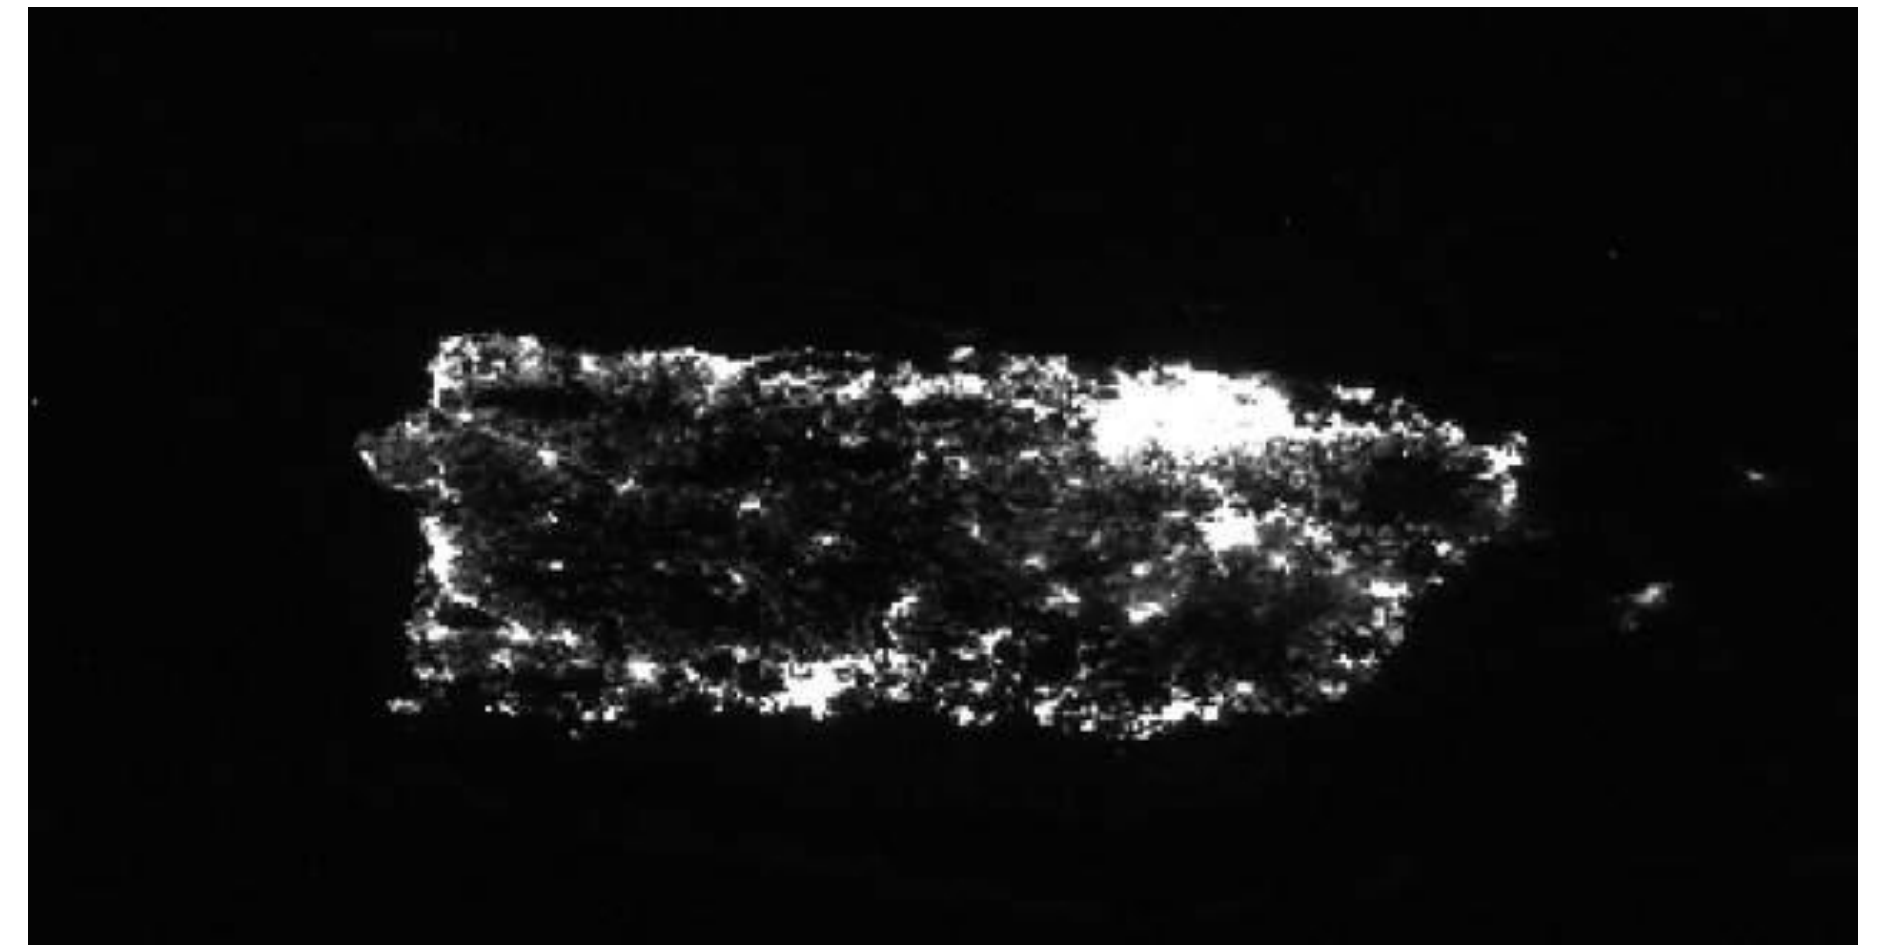
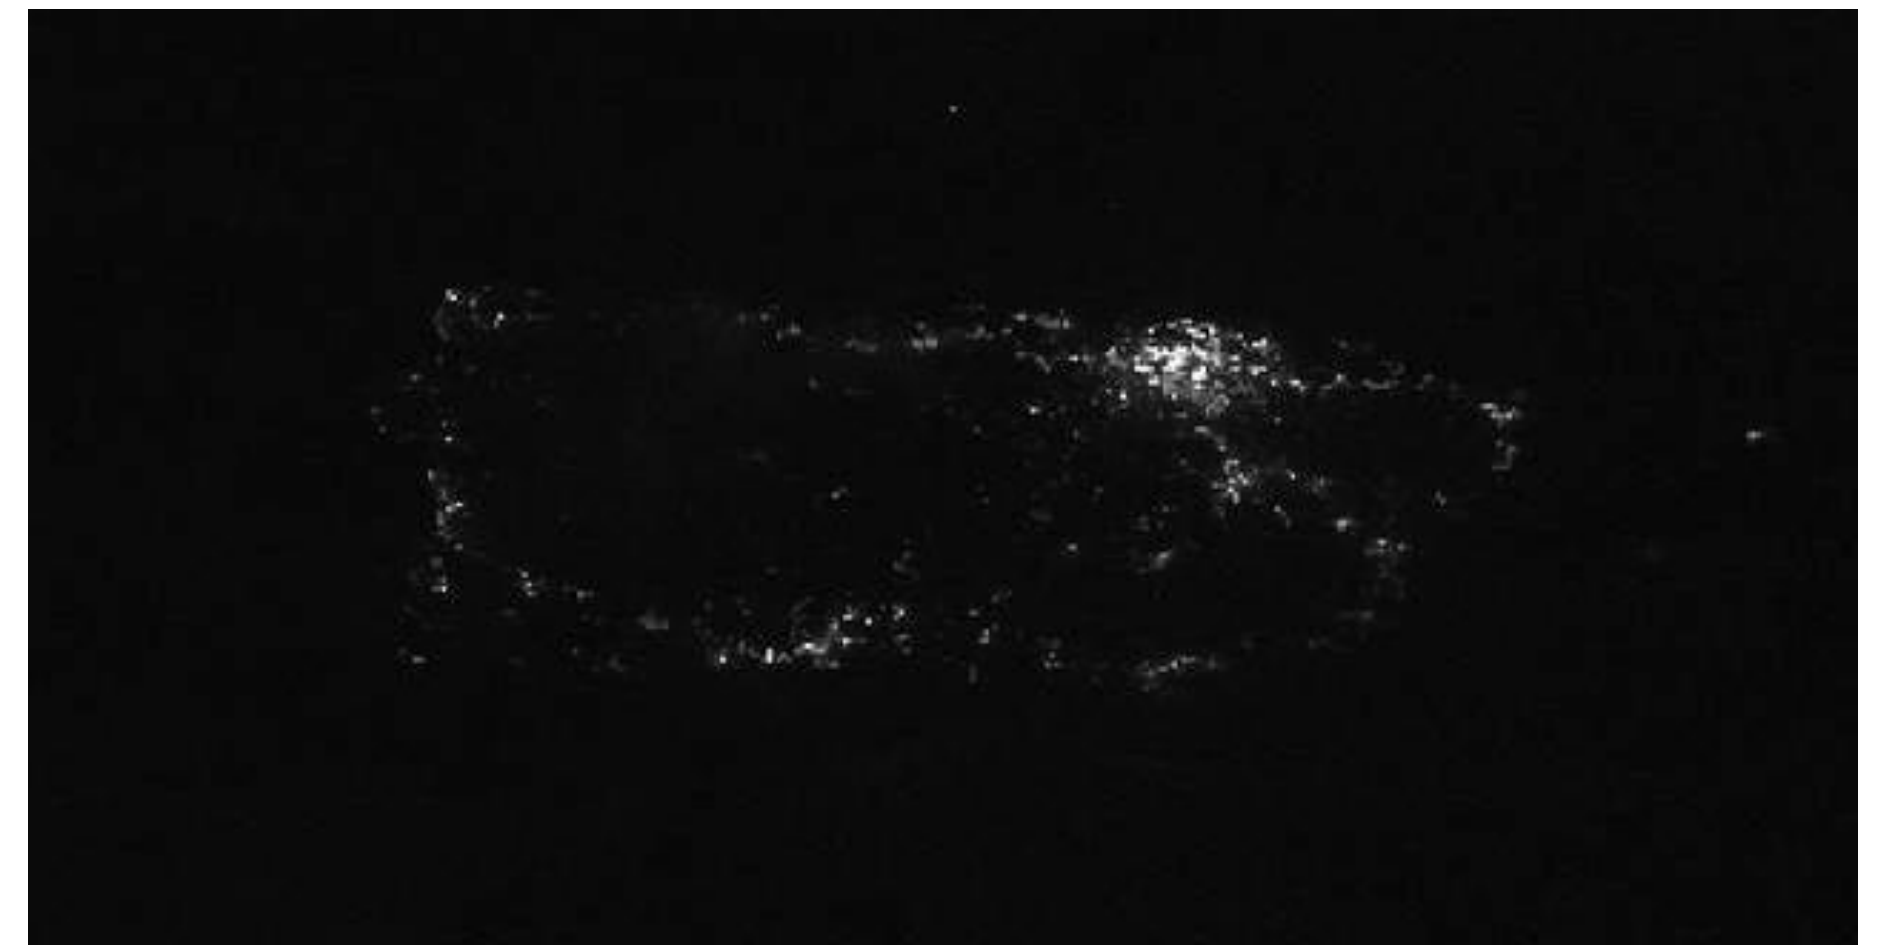

FIGURE 4-1 The island Puerto Rico with intact infrastructure.
FIGURE 4-2 The island of Puerto Rico with severely damaged infrastructure.
- *Figure 4-1* is a satellite view of Cataño Puerto Rico at night. *Figure 4-2* shows Cataño days after the hurricane passed. The electrical infrastructure has been greatly diminished. No electricity means no power for machinery, lights and other things that may create unwanted signals.